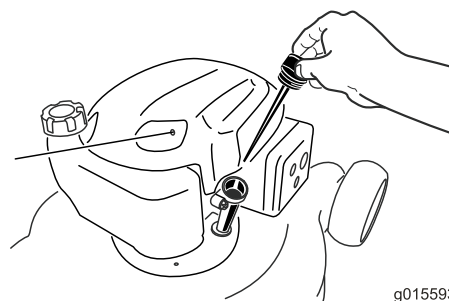

Figure 26
6. Remove the dipstick from the oil-fill tube (Figure 26).